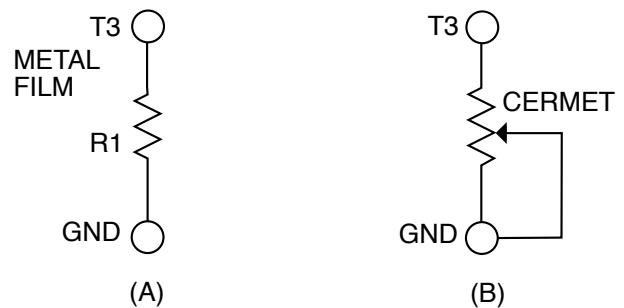

Figure 2
Discrete Resistive Programming: The method shown in Fig. 2(A) provides continuous control of the output amplitude. For both methods, Equation 1 defines the value of R1 for the specific set of conditions.
Continuous Resistive Programming: To determine the value of potentiometer R1 in Fig. 2(B), simply insert the appropriate values into Equation 1.